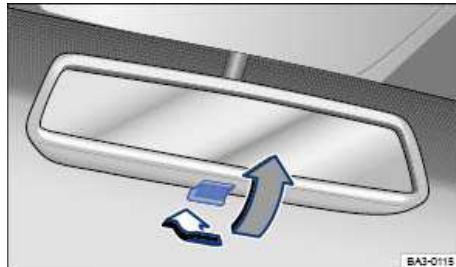

Fig. 96 Manually adjustable inside mirror.
- To adjust to non-glare visibility, move the lever so that it points backwards ⇒ fig. 96.